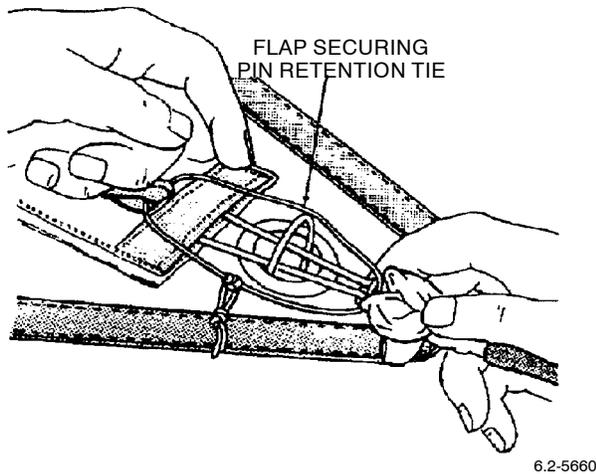

Figure 40. Safety Securing Pin
c. Pass length of size 6 thread, waxed and single, thru flap securing pin, then thru fabric loop on pocket; tie off. Cut off excess cord (Figure 40). (QA)